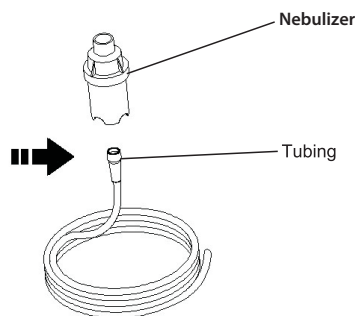

Figure 6-2
10. Firmly press the other end of the tubing onto the bottom of the nebulizer cup (Figure 6-2).